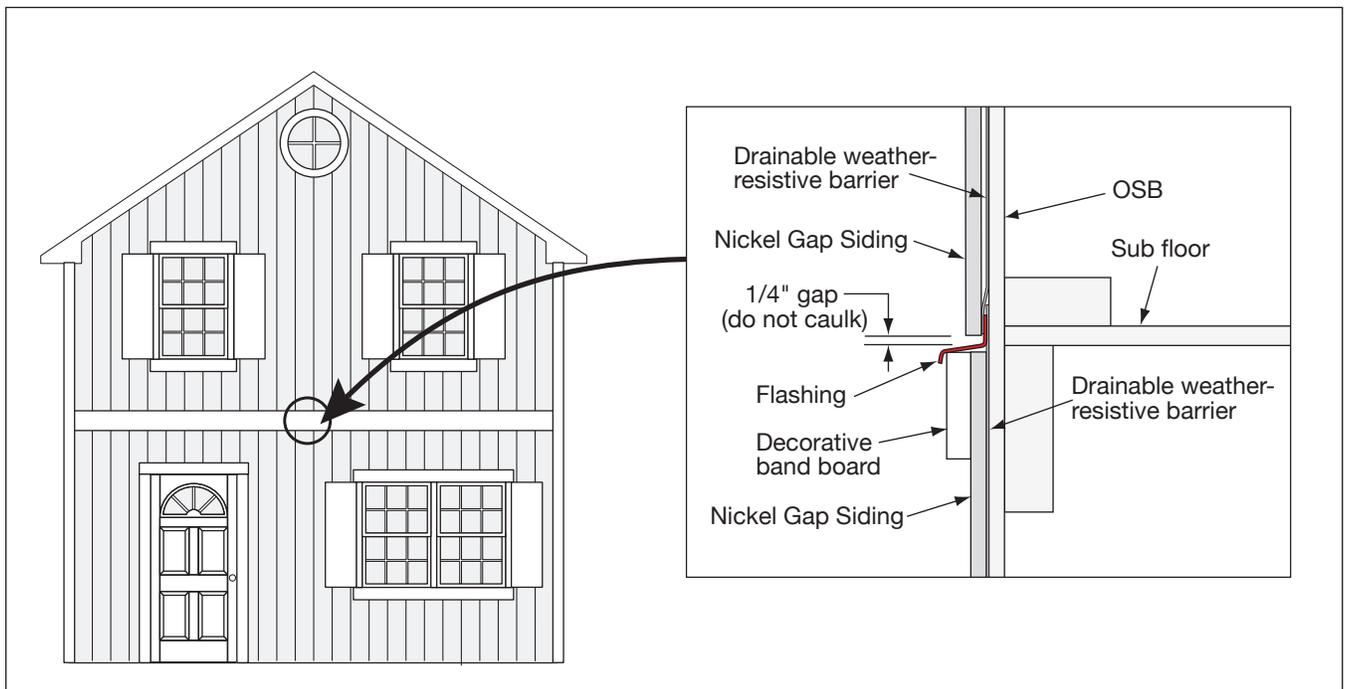

Fig. 21
- In situations where the height of the home requires more than one piece of siding installed vertically, it is required to install flashing at the end of each board. 1/4" minimum gap is required on top of all horizontal flashing (**Fig. 21**)
- TruExterior recommends to break the siding below the sub floor level on new construction (**Fig. 21**)
- In situations where the height of the home requires more than one piece of siding installed vertically, flashing is required between the ends of each board. 1/4" minimum gap is required above all horizontal flashing (**Fig. 21**)
- TruExterior recommends to break the Board and Batten below the subfloor level on new construction (**Fig. 21**)